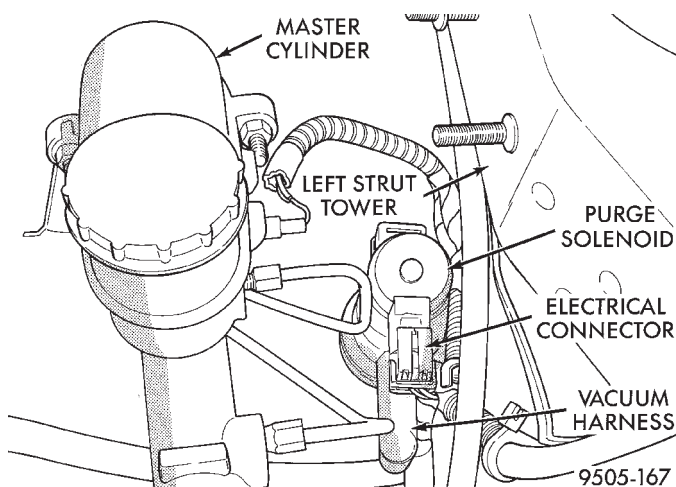

**Fig. 91 Purge Control Solenoid**
(4) Remove the vacuum harness connector and electrical connector from the purge solenoid (Fig. 91). Remove purge solenoid from vehicle.
(9) Install the purge control solenoid (Fig. 91) on the left front frame rail. Tighten the purge control solenoid mounting bolt.